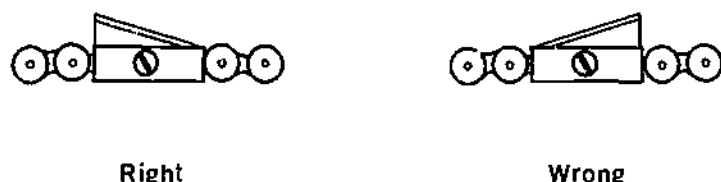

Figure 10-7
5. Place the new blade in the block so that the blade tapers off to the right (Figure 10-7).